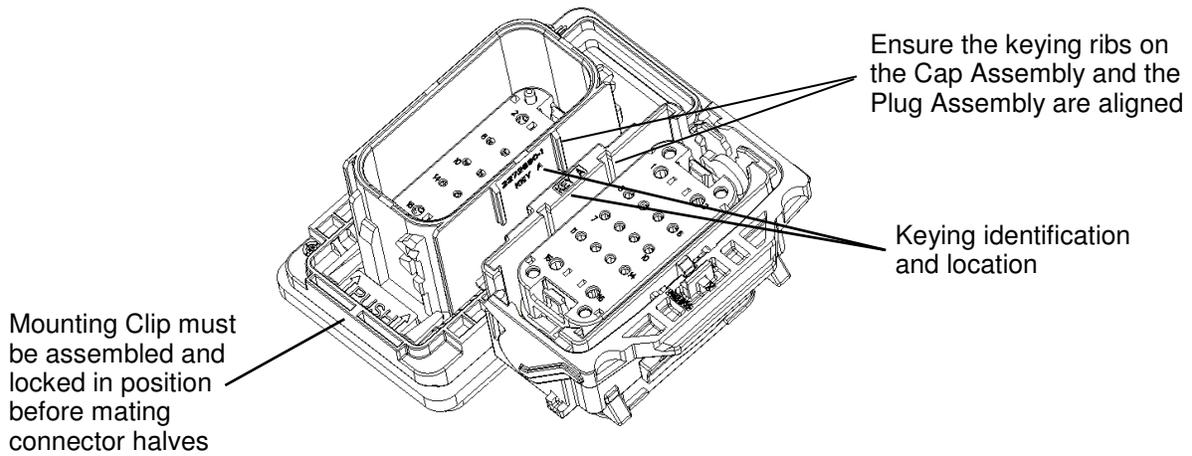

Figure 24
1. Ensure the lever on the plug assembly is in the completely open position. Orient the plug assembly such that the keying features are aligned (see Figure 24). Push the plug assembly onto the cap assembly until the connector pre-staging features engage. An audible “click” can be heard when the connector is pre-staged. See Figure 25
Note *The keying must be the same on the Cap Assembly and the Plug Assembly to mate the connector halves. Keying identification and location are shown in Figure 24*